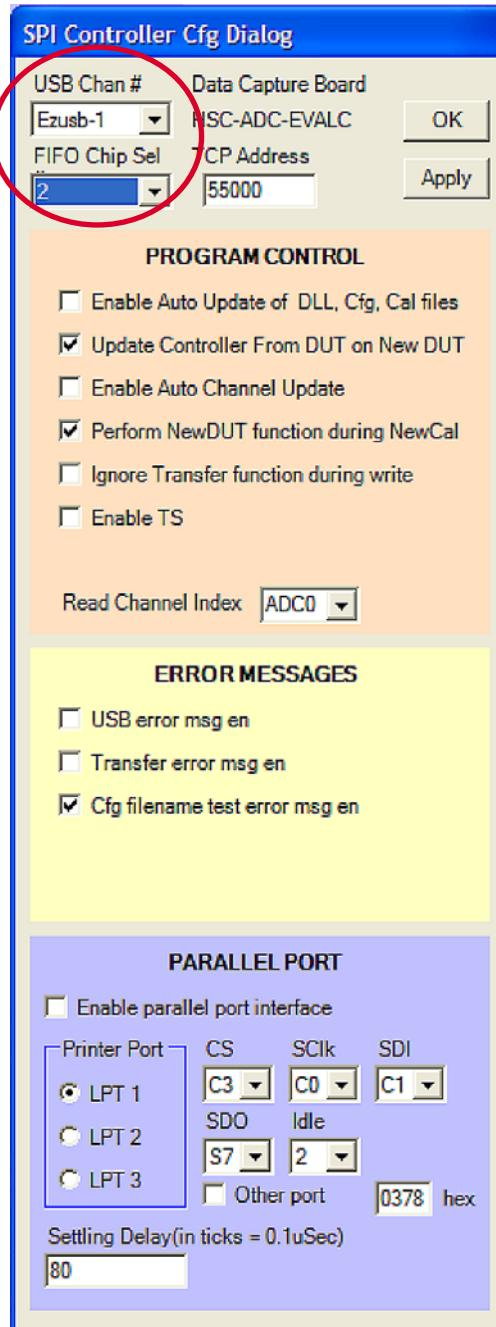

Figure 10.
3. Select **Config** and then **Controller Dialog** and make sure that **FIFO Chip Sel** is set to 2 and that **USB Chan #** is set to the same value as the AD9262 SPIController **Cfg** dialog (see Figure 10).